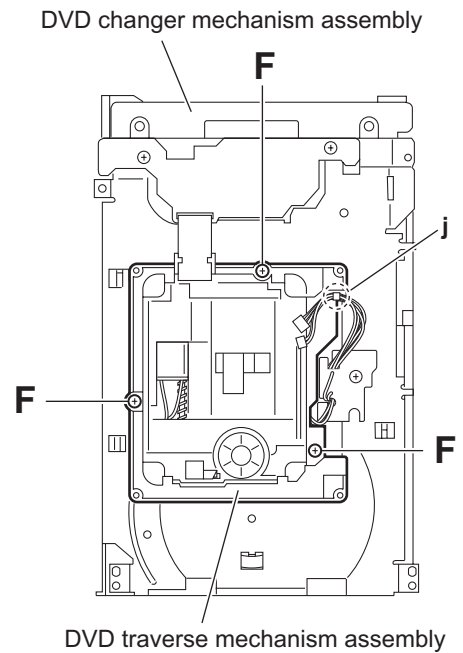

Fig.11
3.2.6 Removing the DVD traverse mechanism assembly (See Fig.11)